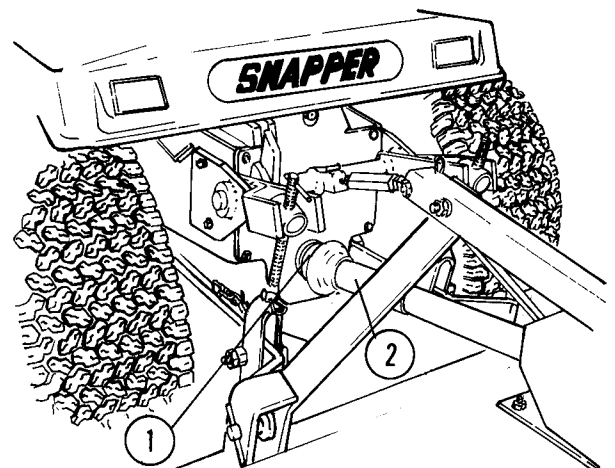

Fig. 7 — PTO Shaft
10. Slide front portion of PTO drive shaft onto rear portion and then slide PTO drive shaft splined end into tractor, Figure 7.
CAUTION: Make sure PTO lock ring snaps into place, Figure 7.